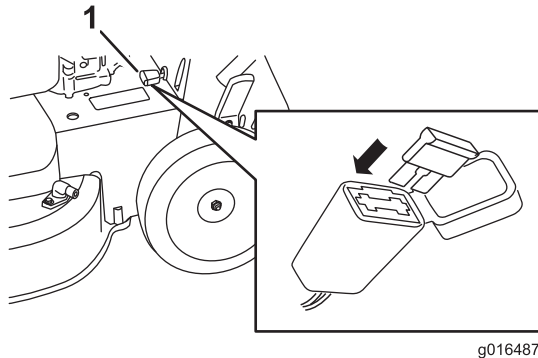

Figure 37
1. Open the sealed fuse holder and replace the fuse (Figure 37).